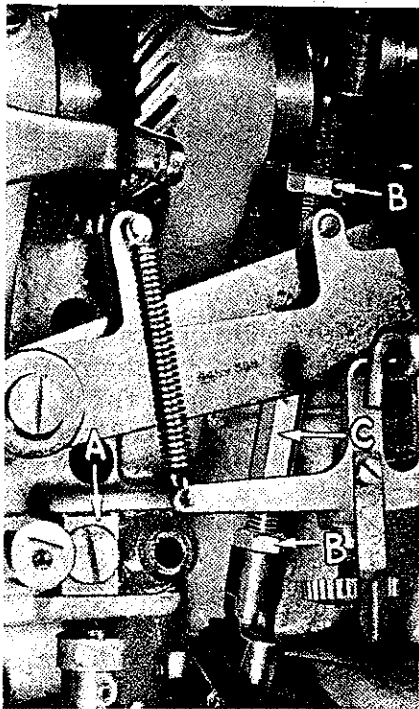

Fig. 5
should be .012 inch clearance between left side of needle blade and presser foot needle guide slot. Lightly tap the needle vibrating crank adjusting lug (A, Fig. 5) to right or left to secure this adjustment. In the photograph the needle vibrating crank has been removed for clarity.
Turn pulley in operating direction until point of looper is directly over center of needle as needle is returning on its left stroke. The back of needle eye should now be  $1/16$  inch from looper point. If adjustment is required at this point, loosen the two locknuts (B, Fig. 5) on ball joint connecting rod (C) and turn rod to secure this setting.